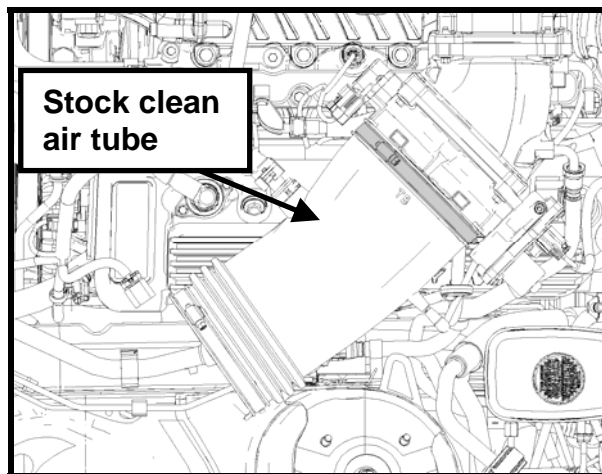

Fig. 27
STEP 11: Re-install the stock clean air tube onto the throttle body (See Fig. 27). Do not tighten the clamp at this point.